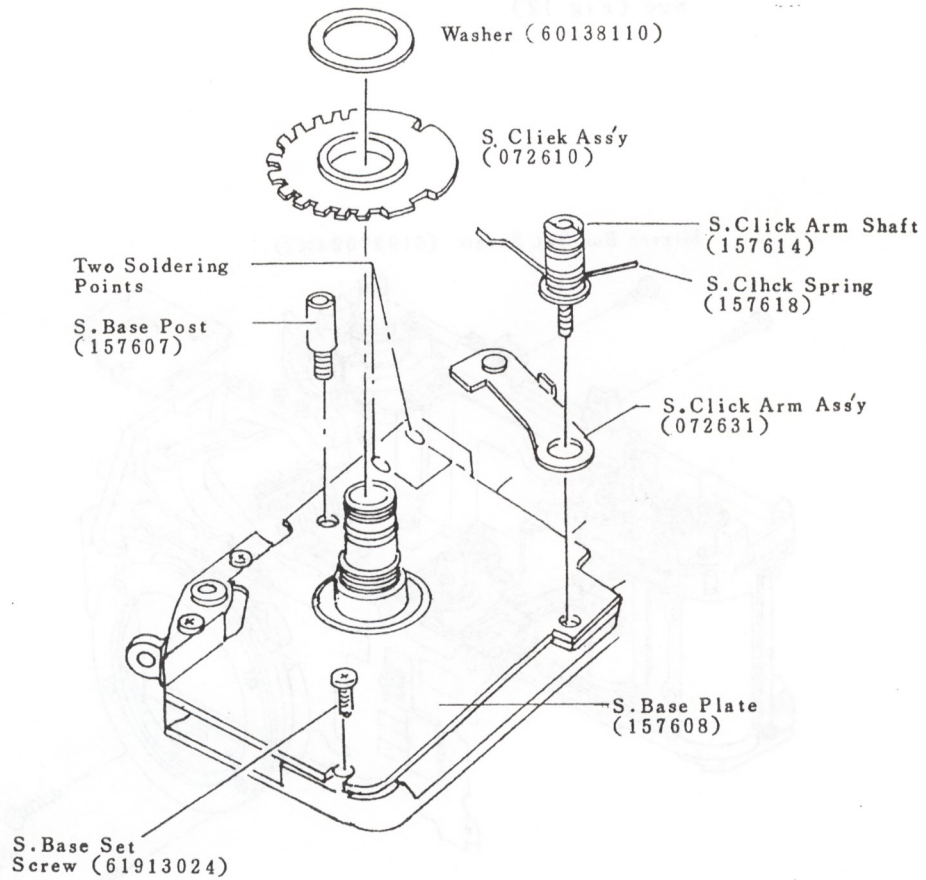

Fig 11
- h) Unsolder two soldering points of FPC (1) and S.Base Plate.
- See (Fig 11)